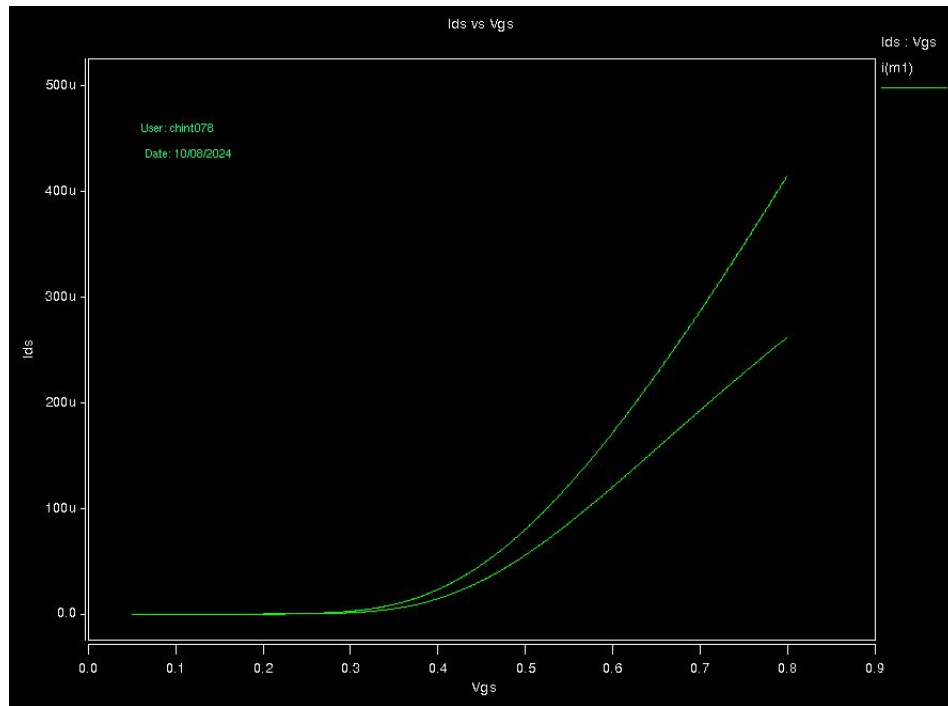

Figure 2: I_{ds} vs V_{gs}
2) CMOS inverter design Figure 2 shows the design of a CMOS inverter. Both PMOS and NMOS FinFETs have 8 fins. $C_L=10\text{fF}$, which is added in the test bench, not in the schematic a) Plot out the voltage transfer characteristic(VTC), which is the curve of V_{out} vs. V_{in} , when V_{in} sweeps from 0 to V_{DD}
b) a ramp input to V_{in} , which is a 0 to V_{DD} switching, with the transition time $T_r=20\text{ps}$ (as shown in Figure 2). Plot out the waveform of V_{out} . Measure the 50% V_{DD} delay (i.e., time difference from the 50% point of input to the 50% point of output) and the time for V_{out} to transit from 90%-10% V_{DD}